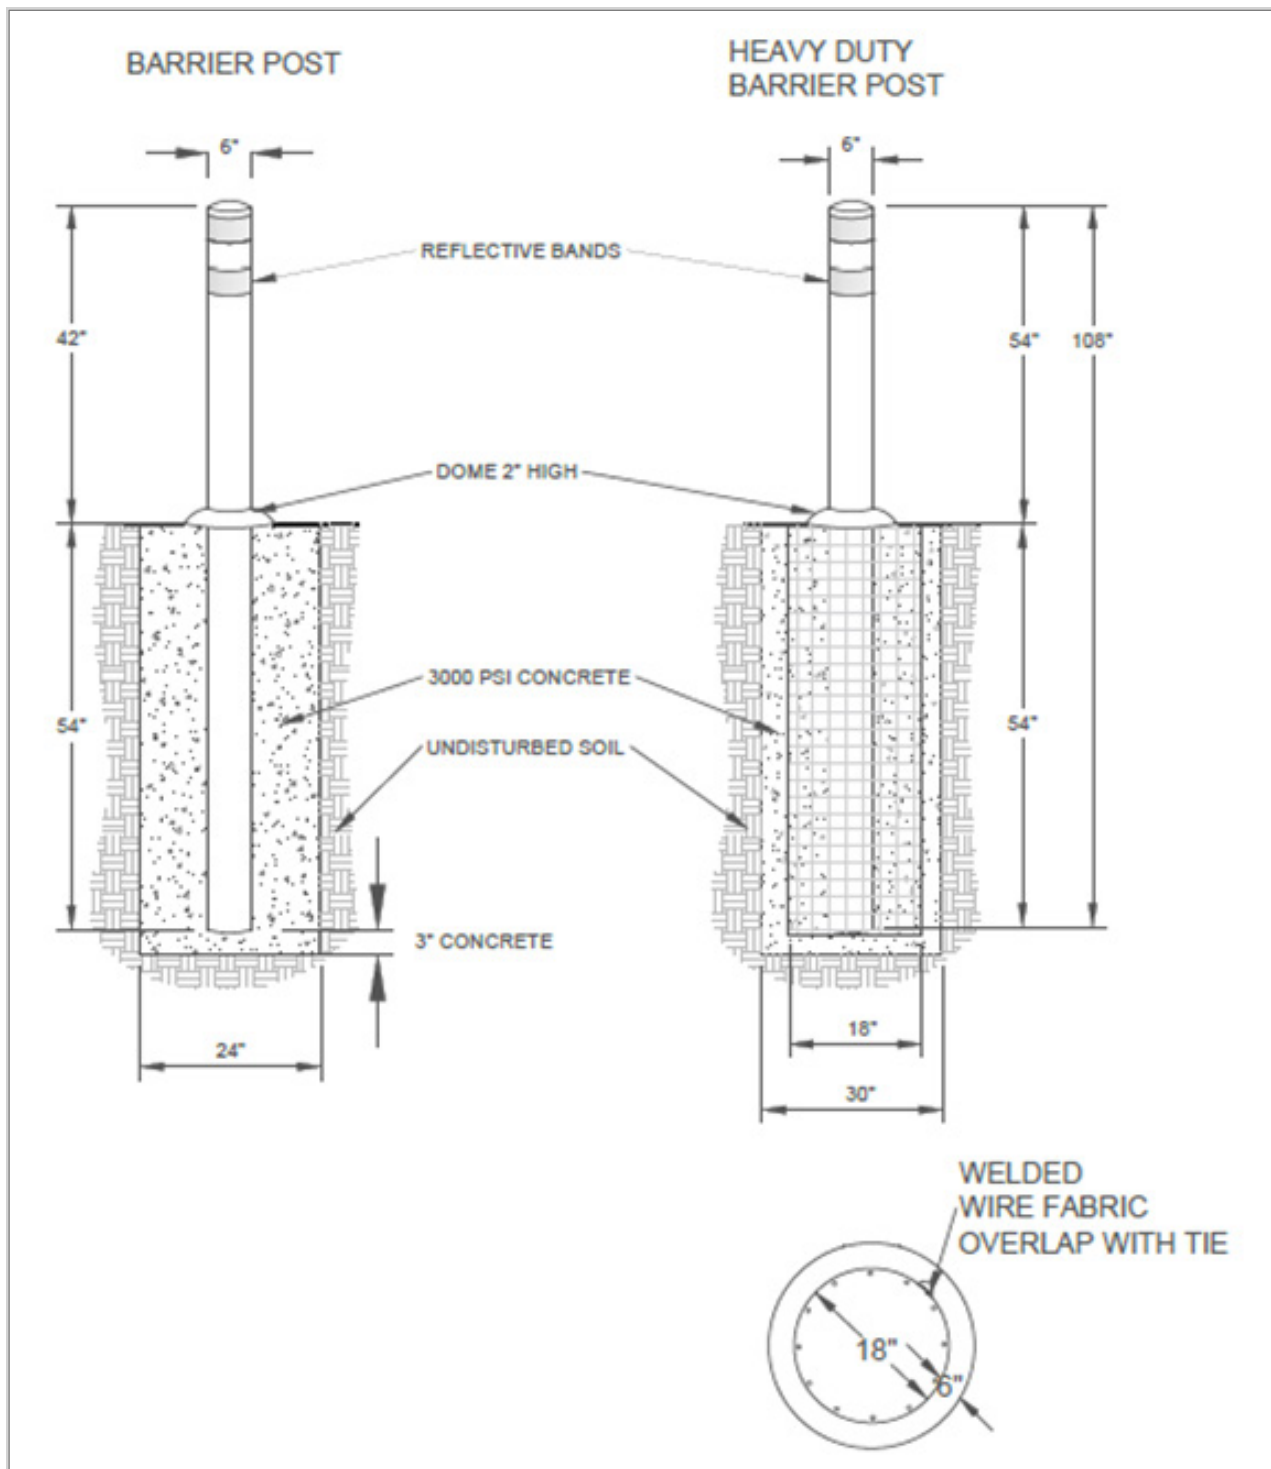

Figure 35: Barrier Post Dimensions and Installation Details
Figure 35 shows barrier post dimensions and installation details.
- Paint all barrier posts safety yellow and apply two 3-inch-wide reflective bands near the top of each post, as shown in **Figure 35**.